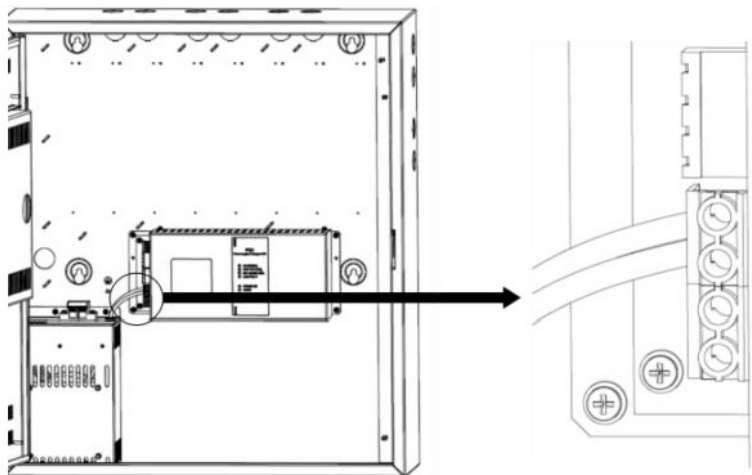

Figure 2
- 3) Connect the FW397 with the FW391 PTU using the wires and terminals provided. (see Figure 2.)